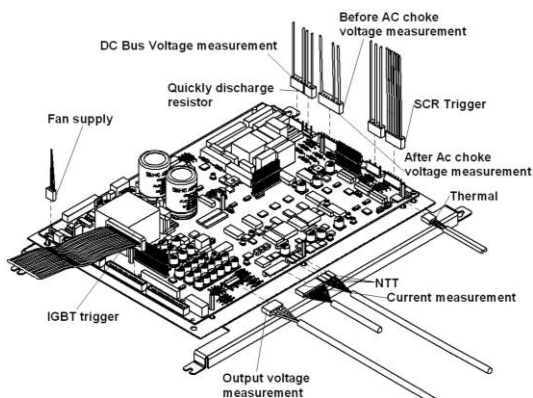

Figure 7.3.6. Disconnect all connected wires from power board
See the figure 7.3.6 while reading the following instructions:
- 7) Connect the cables to the corresponding connectors (see figure 7.3.6).